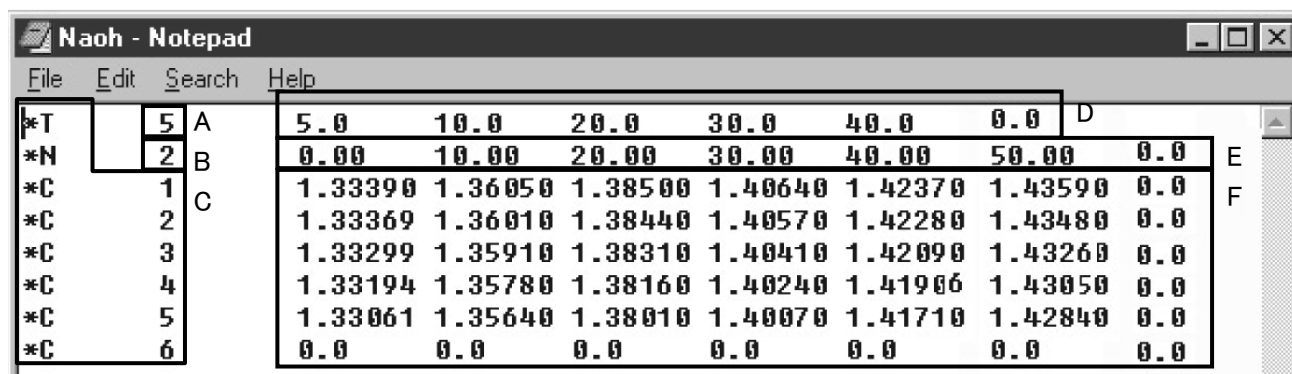

Fig. 11-15
- Enter everything with half-sized characters. See Fig. 11-15 for meaning of individual numeric values.